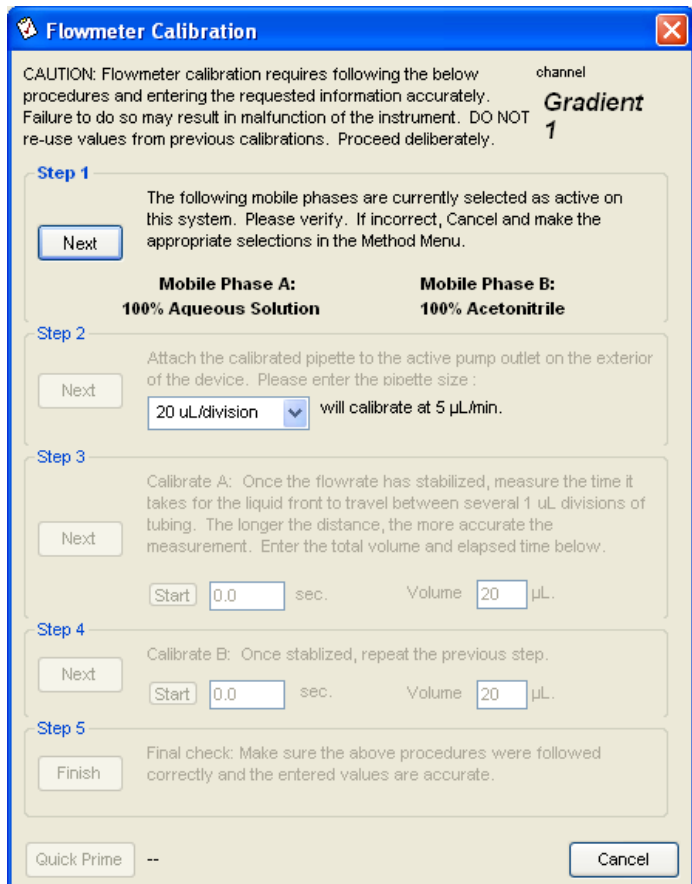

Figure 5-6 Flowmeter Calibration Dialog
2. Select **Calibrate Flowmeter** to display a dialog with step-by-step instructions for performing the test (Figure 5-6).
6. Enter the appropriate volume requested in step 3 of the **Flow Calibration Window** dialog (Figure 5-6). Wait until the liquid front travels to the black line mark on the pipette and press **Start** to begin timing.